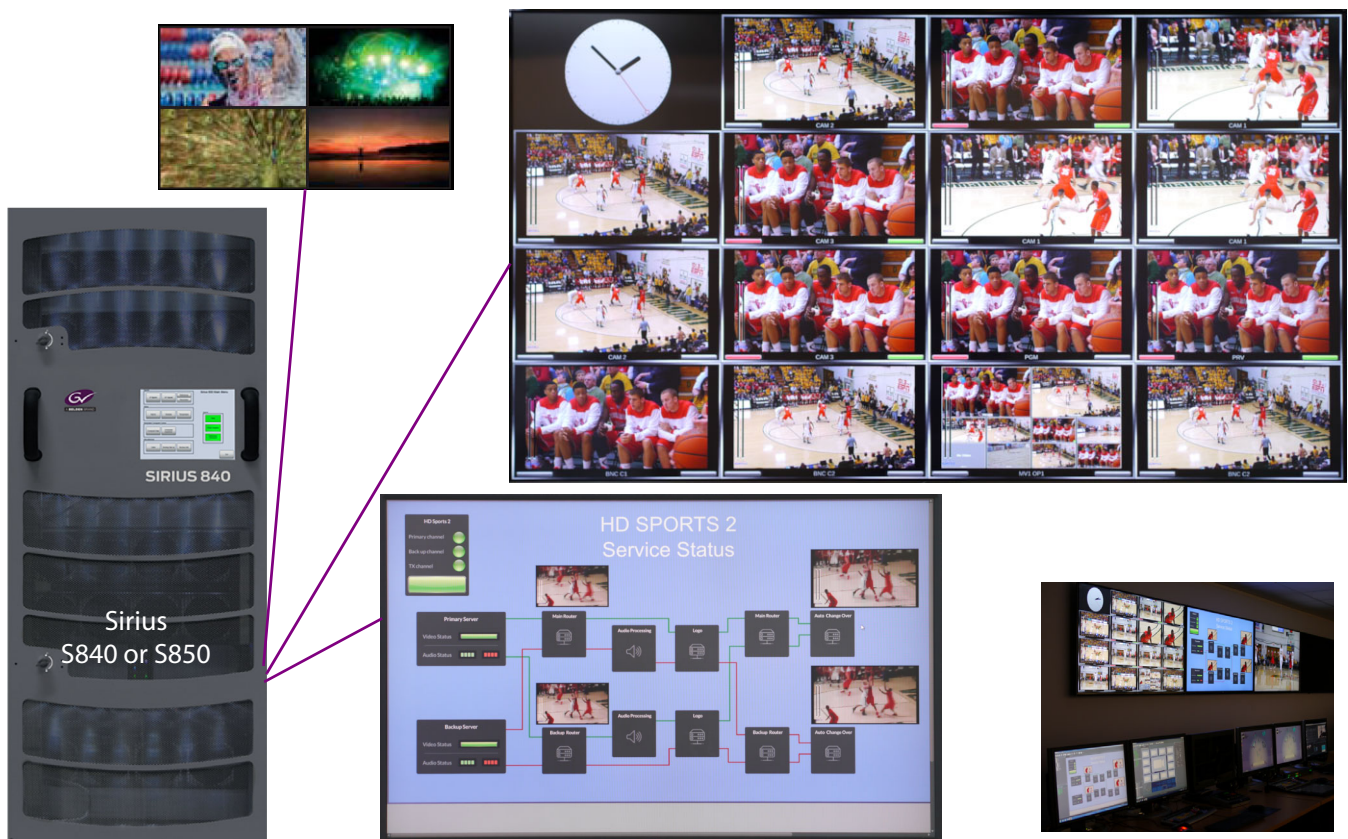

Figure 1 MV-841/851 Integrated Multiviewer Video Walls and Screens (Sirius 840 Router Shown)
- Flexible screen design - multi-channel quad-splits to multi-tile layouts, see Figure 1.